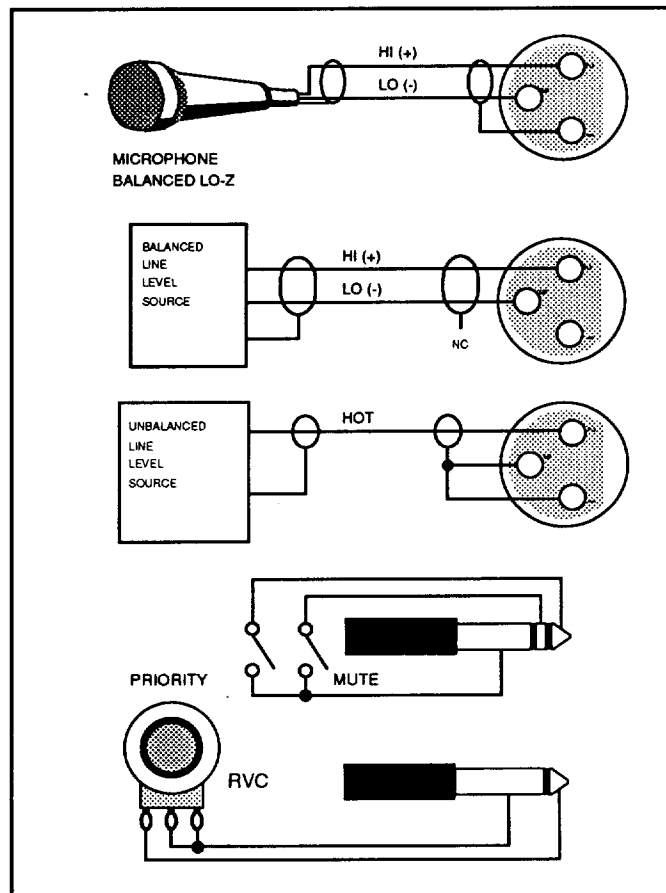

Figure 1: Typical Input Connections.
Balanced microphone or high-level line inputs may be made to the 3-pin XLR-type connectors on the rear of the chassis. A positive voltage on pin 2 (with respect to pin 3) produces a positive voltage on pin 2 of the MAIN output connector and on the tip of the channel line output ¼-inch connector. For single-ended inputs, strap the low (-) input (pin 3) to ground. Refer to Figure 1 for typical input connections.
1. **Priority/Mute Connector:** Connects an external switch to provide priority for Channel 1. While Channel 1 is switched to priority, all other channels are fully attenuated. See Section 4.2 of this manual for further information. Mute removes the signal from all line and main outputs in the mixer. See Figure 1 for typical connections of both priority and mute functions.
2. **Remote Volume Control (RVC) Connector:** The RVC allows the master level to be adjusted from great distances from the mixer, since only DC voltages are present at this connection. The resistance of a potentiometer determines the amount of attenuation in the master voltage-controlled amplifier (VCA). To implement a remote volume control, connect an audio taper potentiometer (1 kohm or greater) between the tip and sleeve of a mono ¼-inch plug. Refer to Figure 1 for a typical connection.
The priority function may be provided for any channel. The 1684A is shipped from the factory with Channel 1 set as the priority channel. When the external priority switch is open, all channels operate as normal. When the external priority switch is closed, Channel 1 operates normally while the remaining channels are fully attenuated. See Figure 1 for a typical switch connection. The priority function can be placed on any number of channels by placing a 10 kohm resistor in R37 on the appropriate input module(s). This resistor location is near the OFFSET adjustment control.